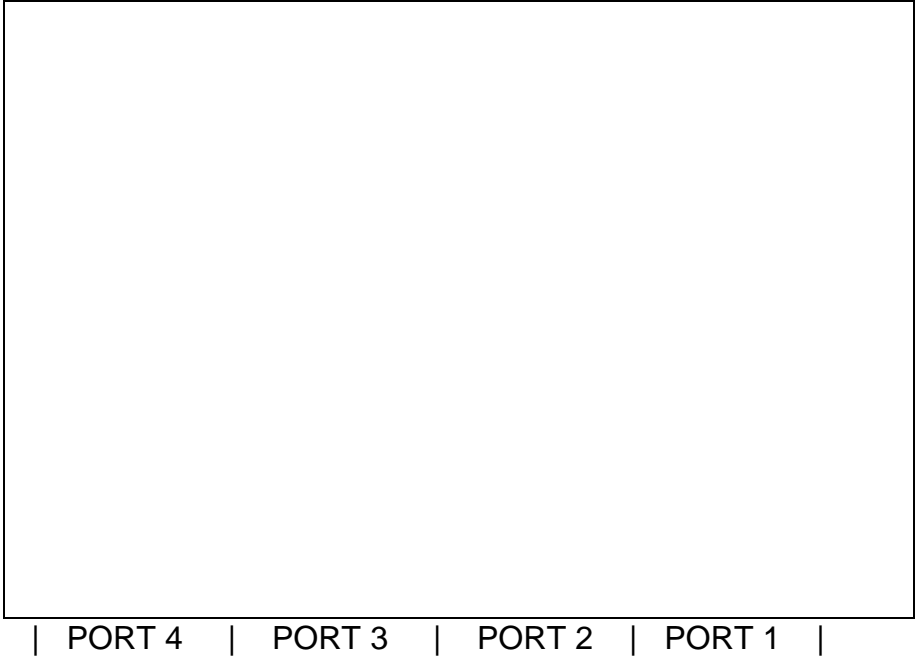

Figure 30
2. **V74** (See Figure 30)--- Each port's jumper position for "ground" connects the center pin and the pin located on the right with the RJ-45 connectors facing you. In both V74 and V75 applications use BayTech adapter, part number 25FRJ45PC-1 or 9FRJ45PC-1.
2. **V74** (See Figure 30)---Install the two position jumper so that it connects the center pin and the pin located on the left of the common pin with the RJ-45 port facing you. Do not move the other jumpers. In these two applications use BayTech adapter, part number 25FRJ45MD-4.
2. **V74** (See Figure 30)---Install the two position jumper so that it connects the center pin and the center pin and the pin located on the left of the common pin with the RJ-45 connectors facing you. Do not move the other jumpers. In this application use BayTech adapter, part number 25FRJ45PC-3 or 9FRJ45PC-3.